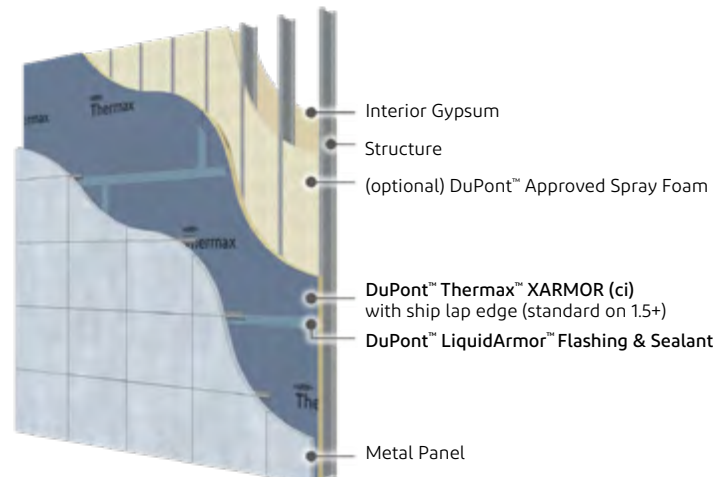

Figure 14: Metal Panel or MCM
- Metal Composite Metal (MCM) (Figure 14)
- Metal panel (Figure 14 shows option with Knight Wall System)